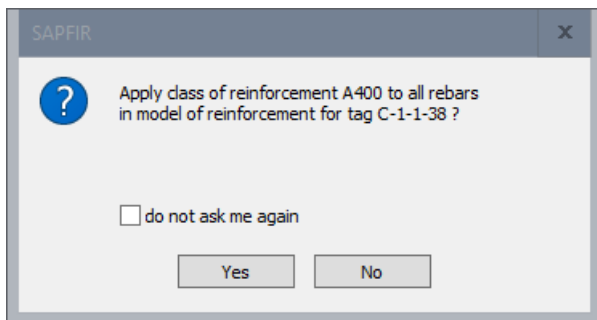

Figure 27.20. SAPFIR message box
- ⇒ In the SAPFIR message box (see Fig. 27.20), click **Yes**. New tab will be displayed with the model of reinforcement for the column (sectional elevation and two cross sections), arranged according to selected type of reinforcement.